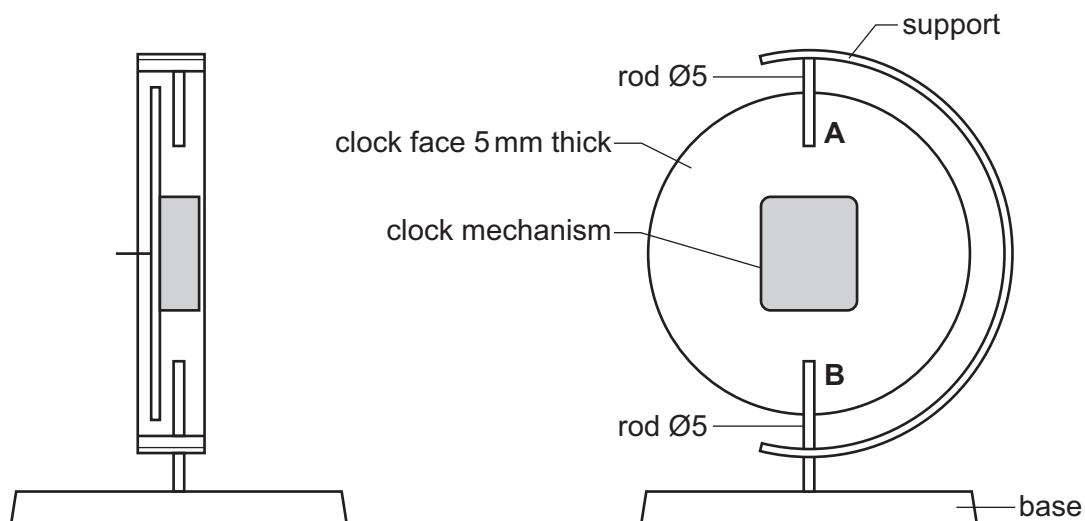

Fig. 12.4
- (g) Fig. 12.4 shows views of the side and back of the clock. The clock face will be joined to the base and support using two Ø5 acrylic rods labelled **A** and **B**.